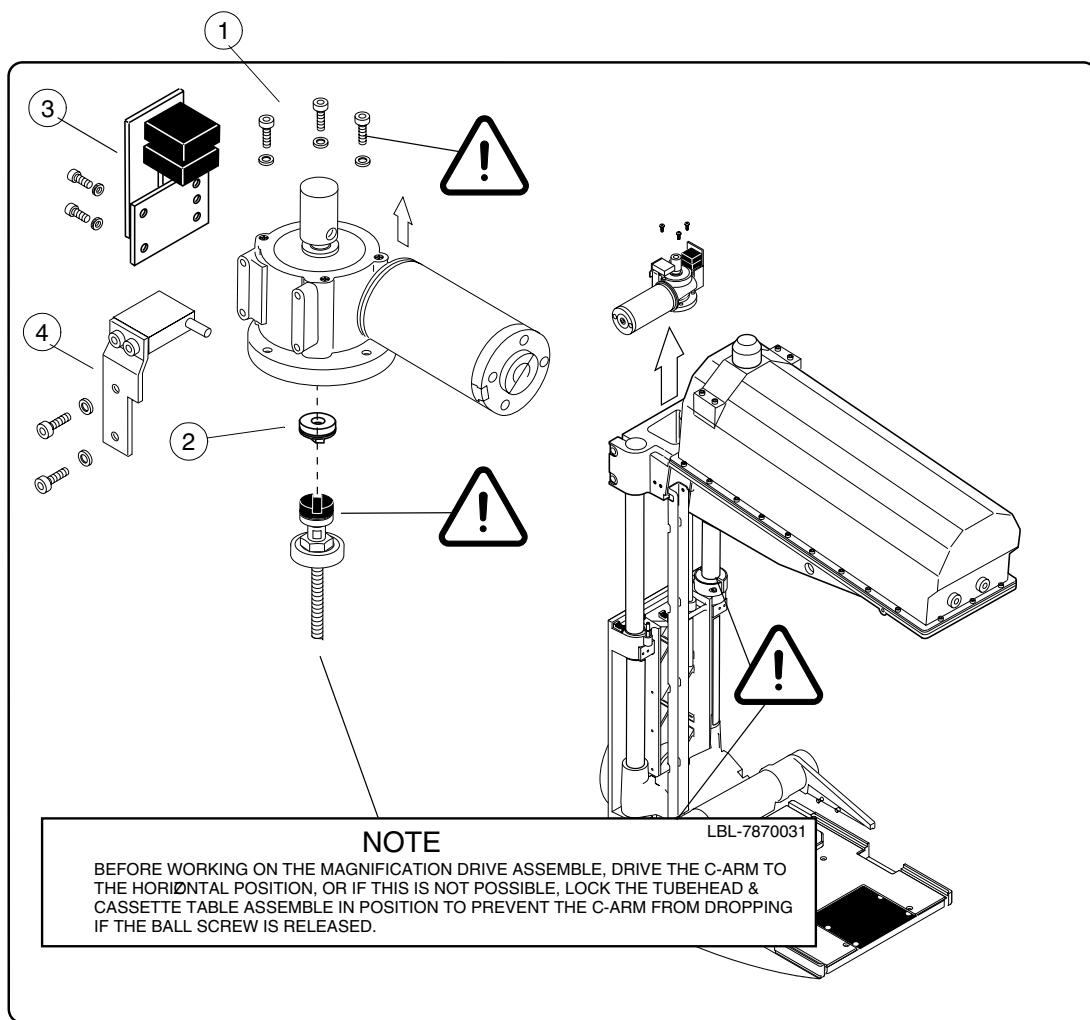

Figure H.40
- a) Unscrew the three screws that hold the Magnification motor in the Tubehead (Fig. H.40, 1).
- d) Remove the Clutch (Fig. H.40, 2) from the motor axle.
- e) Remove the Mag control PCB (Fig. H.40, 3) and the Rotation sensor assembly (Fig. H.40, 4) from the motor.